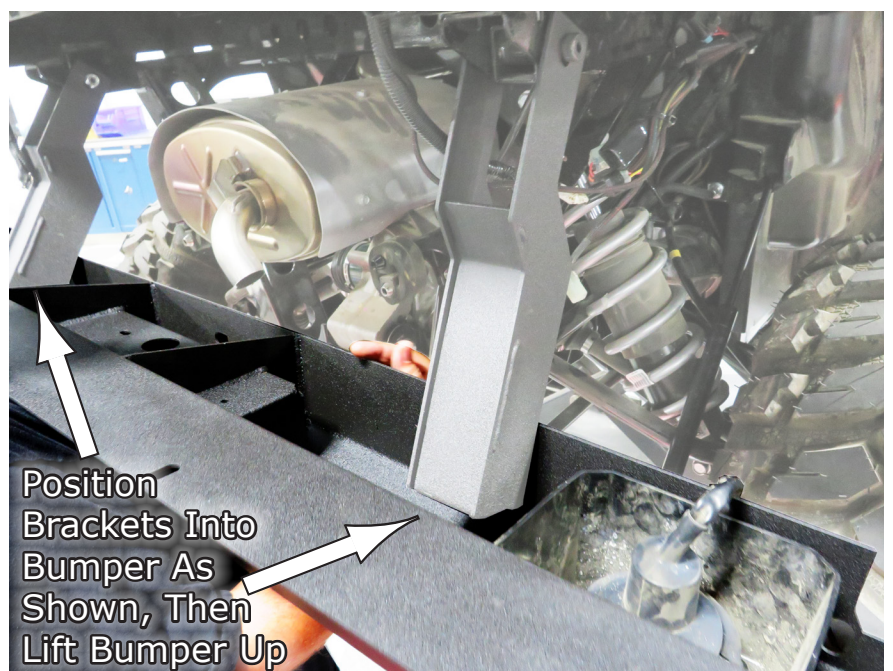
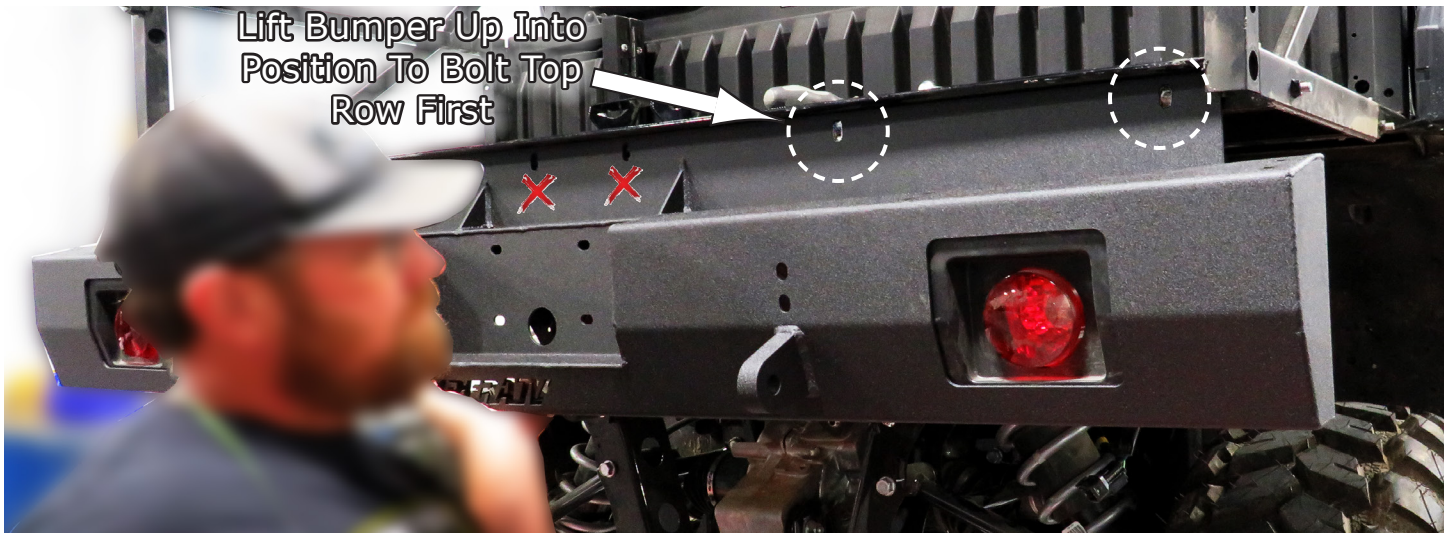

Fig.14a
Fig.14b
14. Now get the **Bumper** and hold it up to the Braces as shown in Fig.14a, and then lift it up into bumper position as shown in Fig.14b. You may need help with this as it is a little heavy.